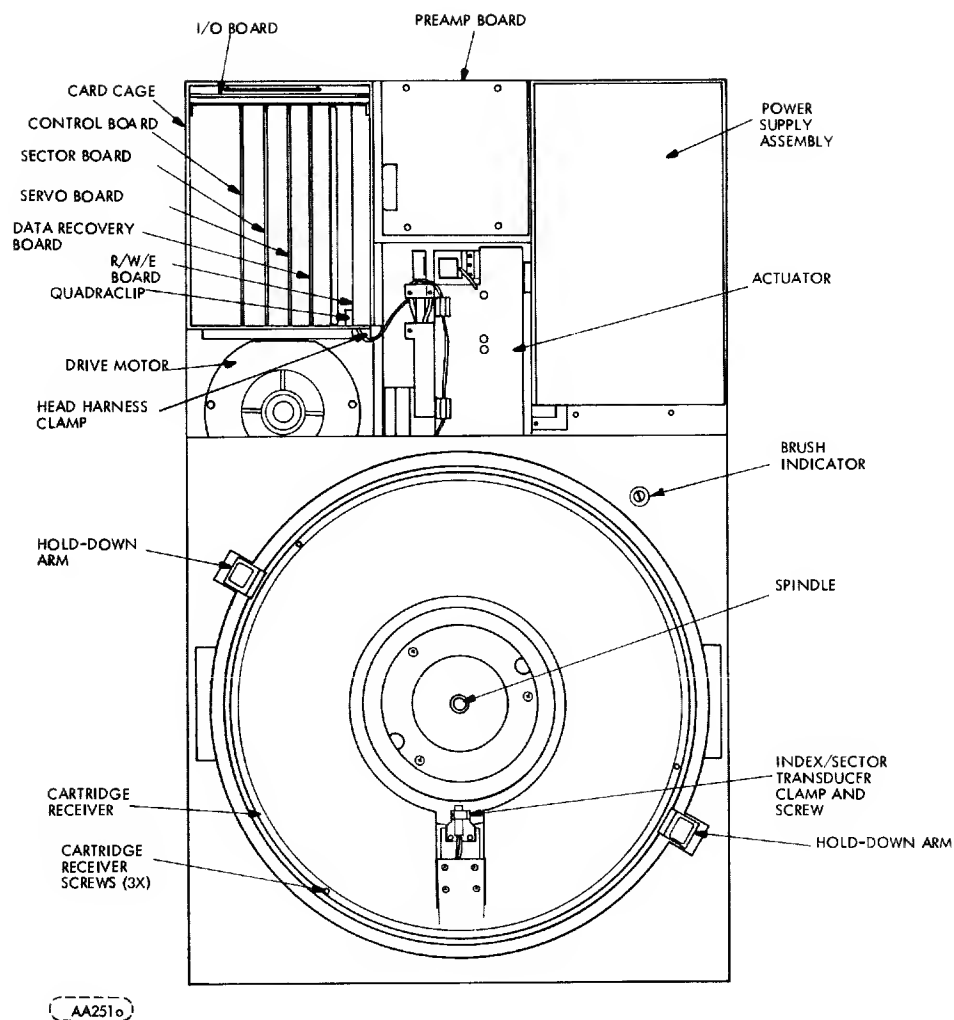

FIGURE 6-4. MODULE LOCATION (ABOVE DECK)
6. Remove head harness clamp (Figure 6-4).